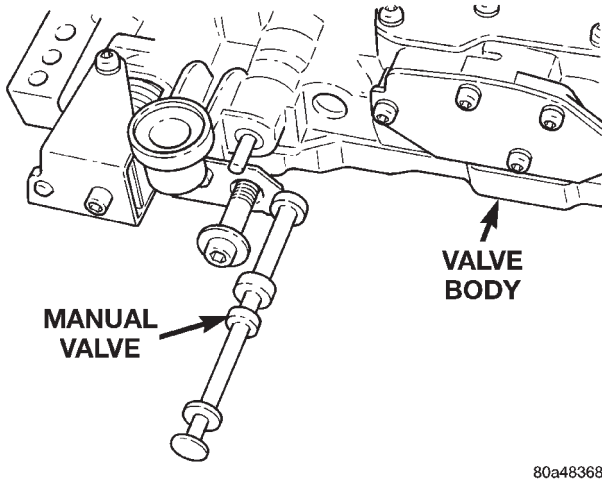

Fig. 47 Manual Valve
(7) Remove manual valve from valve body (Fig. 47).